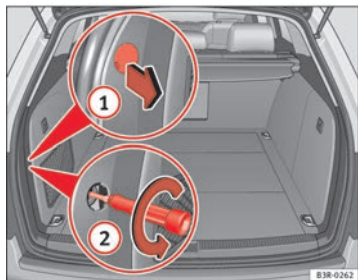
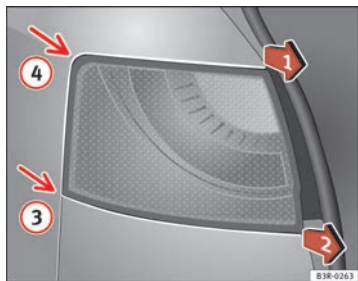

Fig. 224 Luggage compartment: Location of the bolt securing the tail light unit
Fig. 225 Removing tail light from side panel
- Prise off the cover with a screwdriver in the slot ⇒ fig. 224 ① and remove the cover (with the retaining clips) from the opening.
- Carefully loosen the screw located behind the cover with the screwdriver, turning it anti-clockwise (arrows) ②.
- Gradually ease the tail light out of the housing (⇒ fig. 225 positions ③ and ④) by pulling alternately in positions ① and ②.